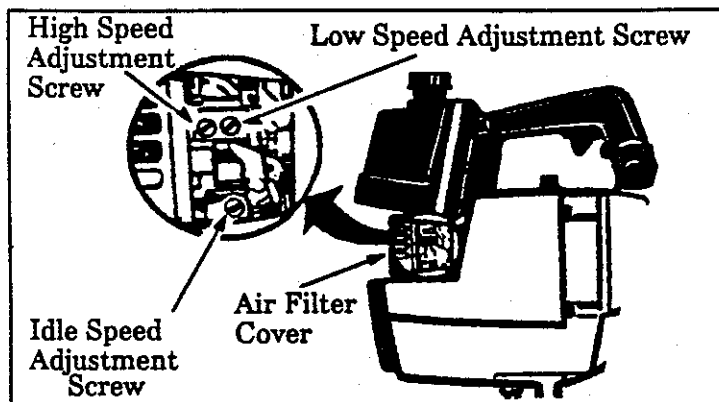

Figure 31
- a. Turn the Low speed Mixture Screw and the High speed Mixture Screw (Figure 31) clockwise until they stop. *Do not turn the screws until they are tight as damage to the needle seats can occur.*
2. Adjust Idle Speed Screw (Figure 31) until the engine continues to run without stalling and without the blade or trimmer head moving.
- b. **If the engine does not accelerate smoothly,** turn the Low speed mixture Screw (Figure 31) counterclockwise a small amount (no more than the width of the slot in the adjusting screw).
2. Turn the Low speed Mixture Screw (Figure 31) slowly clockwise until the speed starts to drop. Note this position.
3. Turn High Speed Mixture Screw (Figure 31) very slowly clockwise until engine speed is reduced.